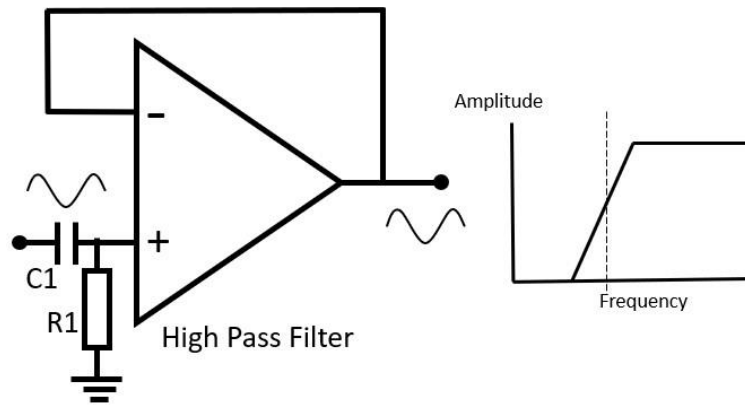

Figure 9: High Pass Filter.
8. **The High pass filter** is a unity gain amplifier passing the frequencies higher than that determined by R_1 and C_1 (Figure 9).